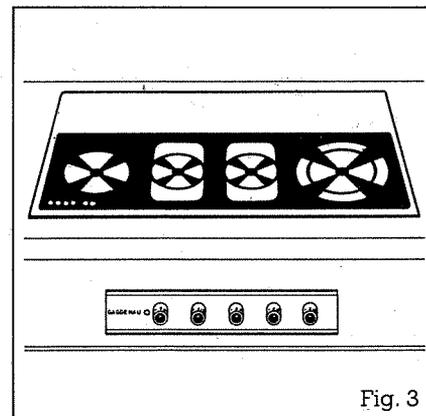

Fig. 3
2. The control console is intended for installation in the front panel of the base cabinet (Fig. 3).